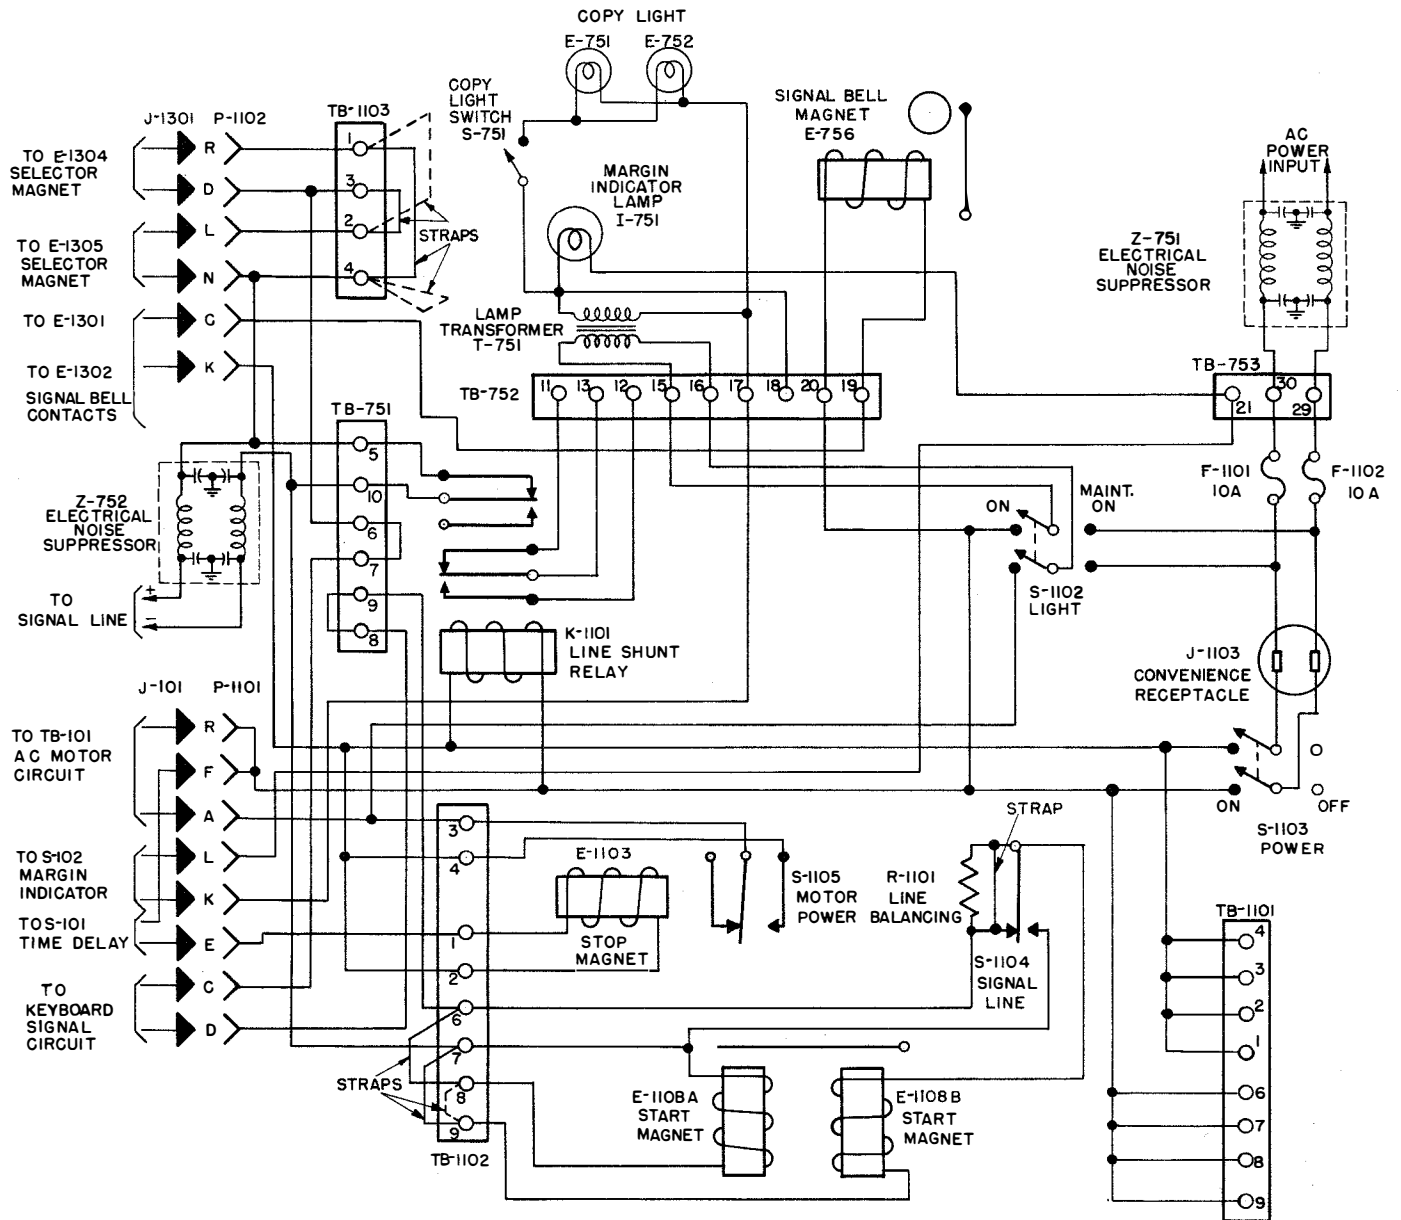

Figure 2-79. Power Distribution Panel SB-154/UG and Cabinets CY-870/UG and CY-871/UG, Schematic Wiring Diagram
light may be turned ON by throwing S-1102 to the MAINT ON position, and S-751 in the Cabinet to the ON position. When S-1103 is ON, the power input is applied to the power terminal board TB-1101 and to the magnet coil of the signal line shunt relay K-1101. In the de-energized position of K-1101, its contacts shunt the signal line at TB-751 in the Cabinet. When K-1101 is energized by operation of S-1103, the contacts open to remove the shunt. In the left or ON position of S-1102, power for T-751 in the Cabinet is taken from TB-1101 and is controlled by the motor switch S-1105 in the electrical motor control mechanism. See paragraph 6.c. of this section. The circuit from the margin indicator switch S-102 in the Keyboard connects with the margin indicator lamp circuit in the Cabinet at TB-752 and TB-753. The circuit from the motor stop switch S-101 in the Keyboard picks up power at TB-1101, and connects with the stop magnet E-1103 in the electrical motor control mechanism. The circuit from the signal bell electrical contacts E-1301 and E-1302 in the Automatic Typer picks up power at TB-1101 and connects with the wires from the signal bell magnet E-756 at TB-752 in the Cabinet. The AC Motor circuit from the Keyboard picks up power at TB-1101, and connects with S-1105 in the electrical motor control mechanism. The electrical noise suppressor Z-752 is located in the Cabinet under the Keyboard and is in series with the signal line which is brought to the signal line terminal board TB-751 in the Cabinet. The signal line circuits from both the Keyboard and the Automatic Typer connect with TB-751, where they may be arranged for either single loop or double loop operation. In addition, wires from the selector magnets E-1304 and E-1305 in the Automatic Typer connect with terminal board TB-1103 in the Power Distribution Panel. Two strap wires on TB-1103 which connect E-1304 and E-1305 "in parallel" for 0.060 ampere signal line current operation may be rearranged (dashed lines in figure 2-79) to connect E-1304 and E-1305 "in series" for 0.020 ampere operation.
c. ELECTRICAL MOTOR CONTROL.—The electrical motor control mechanism is mounted in the center of the Power Distribution Panel. All connections to this mechanism are made through its terminal board TB-1102. The purpose of the mechanism is to start the AC Motor when the signal line current is interrupted, and to stop the AC Motor if the signal line circuit remains unbroken for a specified period of time. In the equipment as furnished, the start magnets E-1108A and E-1108B in the electrical motor control mechanism are wired in parallel for 0.060 ampere signal line current operation. For 0.020 ampere signal line current operation, the strap wires on TB-1102 may be rearranged (dashed lines in figure 2-79) to connect E-1108A and E-1108B in series. Also, the strap across the line bal-